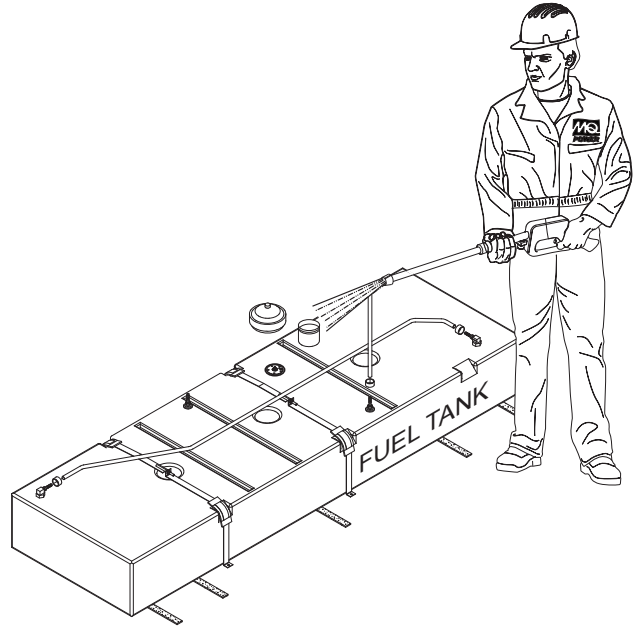

**Figure 182. Fuel Water Separator**
1. Using a **filter wrench**, remove the **fuel water separator cartridge** (Figure 182) from the cartridge head.